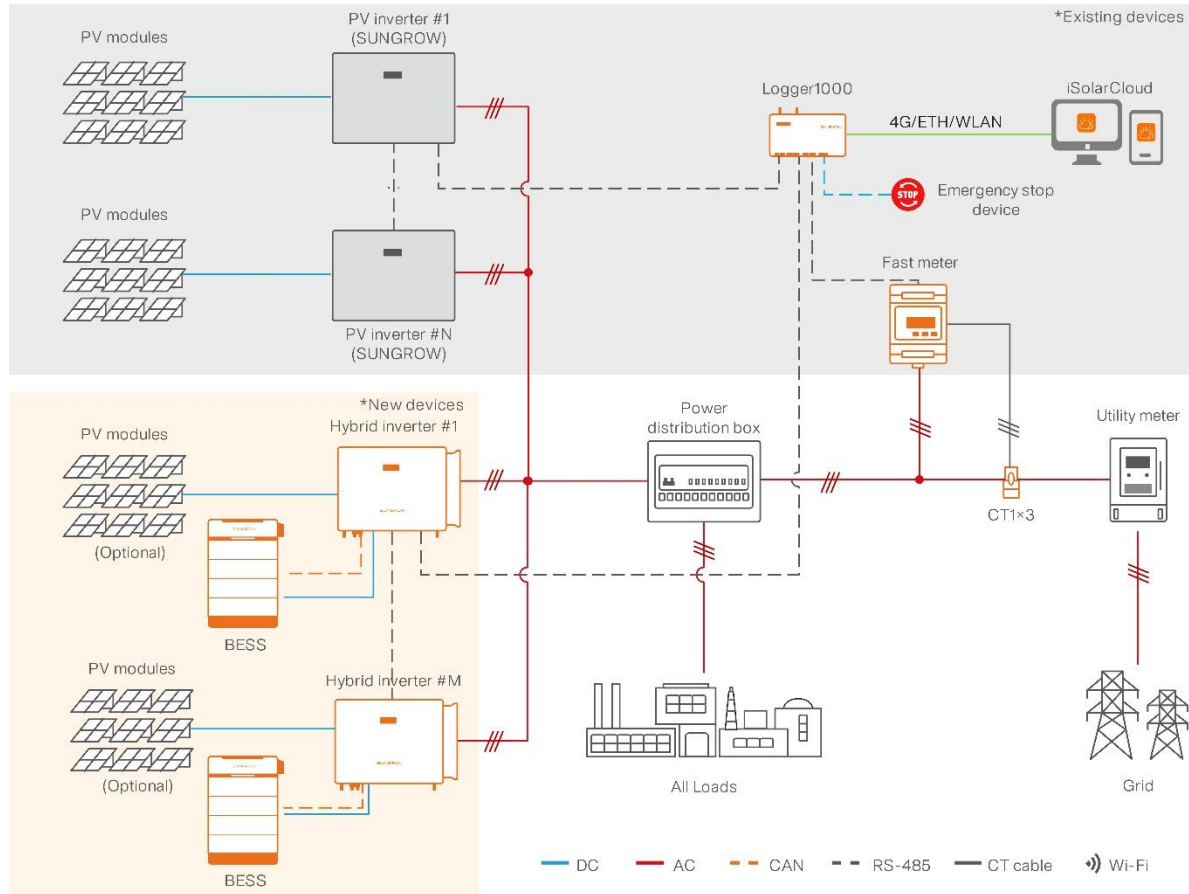
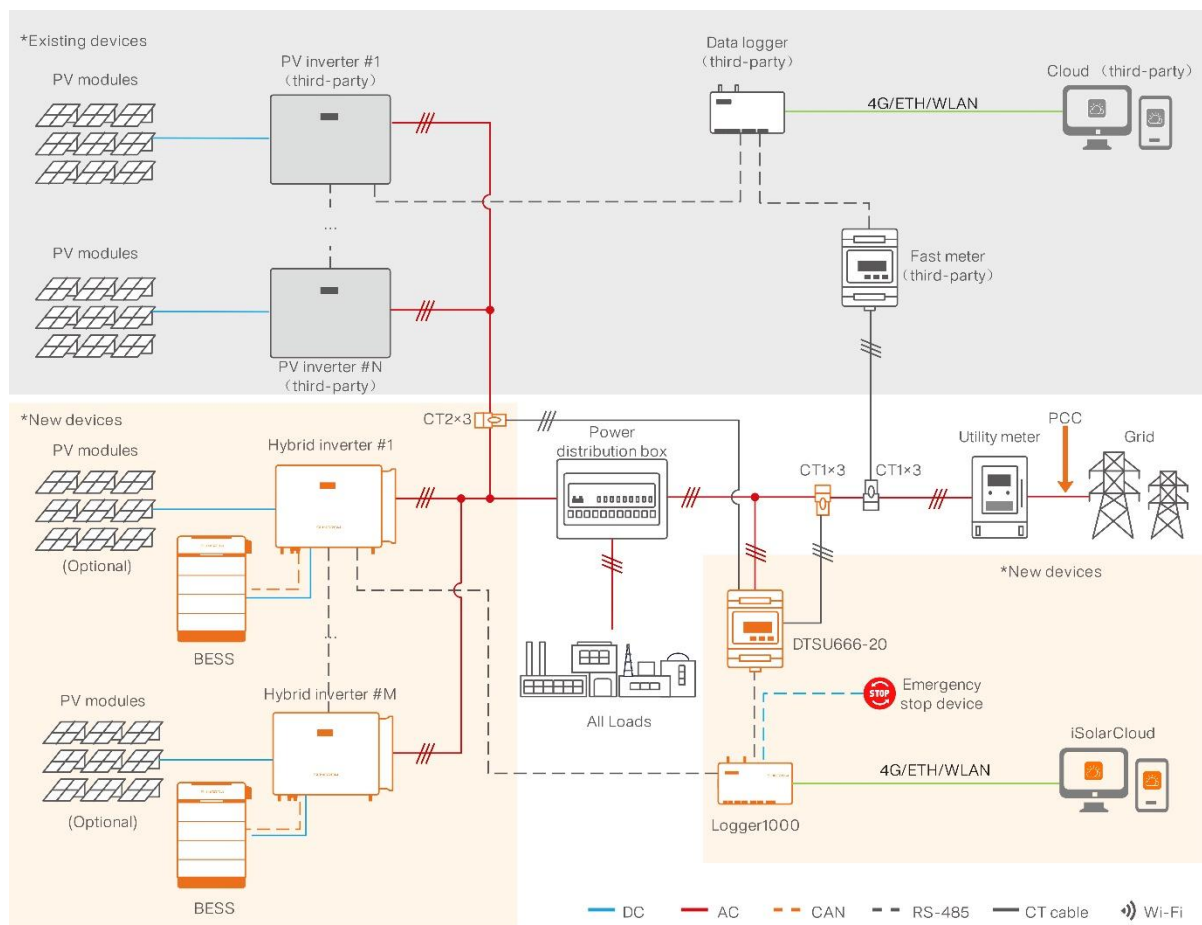

Fig.4-8 Plant-Level Communication Topology (Retrofit SUNGROW PV System, and Add Hybrid Inverters)
Fig.4-10 Plant-Level Communication Topology (Retrofit Third-Party PV System, and Add Hybrid Inverters)
- The existing PV modules and inverters can be retained, with hybrid inverters added on the AC side. These hybrid inverters can be connected to PV modules (optional) and BESSs, as shown in "Fig.4-8 Plant-Level Communication Topology \(Retrofit SUNGROW PV System, and Add Hybrid Inverters\)" and "Fig.4-10 Plant-Level Communication Topology \(Retrofit Third-Party PV System, and Add Hybrid Inverters\)".